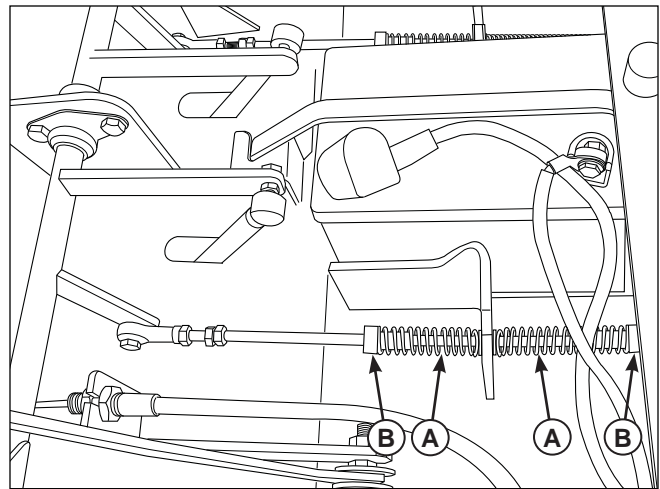

Figure 36. Return-to-Neutral Adjustment
1. Loosen the set collar (B, Figure 36) locked against the return spring (A).